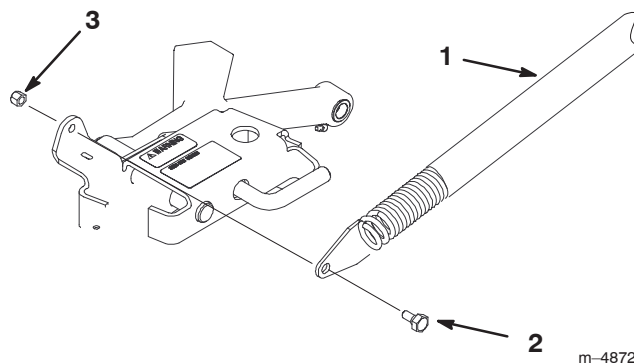

Figure 31
- Secure spring end plate assembly to carrier frame with a shoulder bolt (3/8 x 7/8 inch) and a locknut (3/8 inch) (Fig. 31).